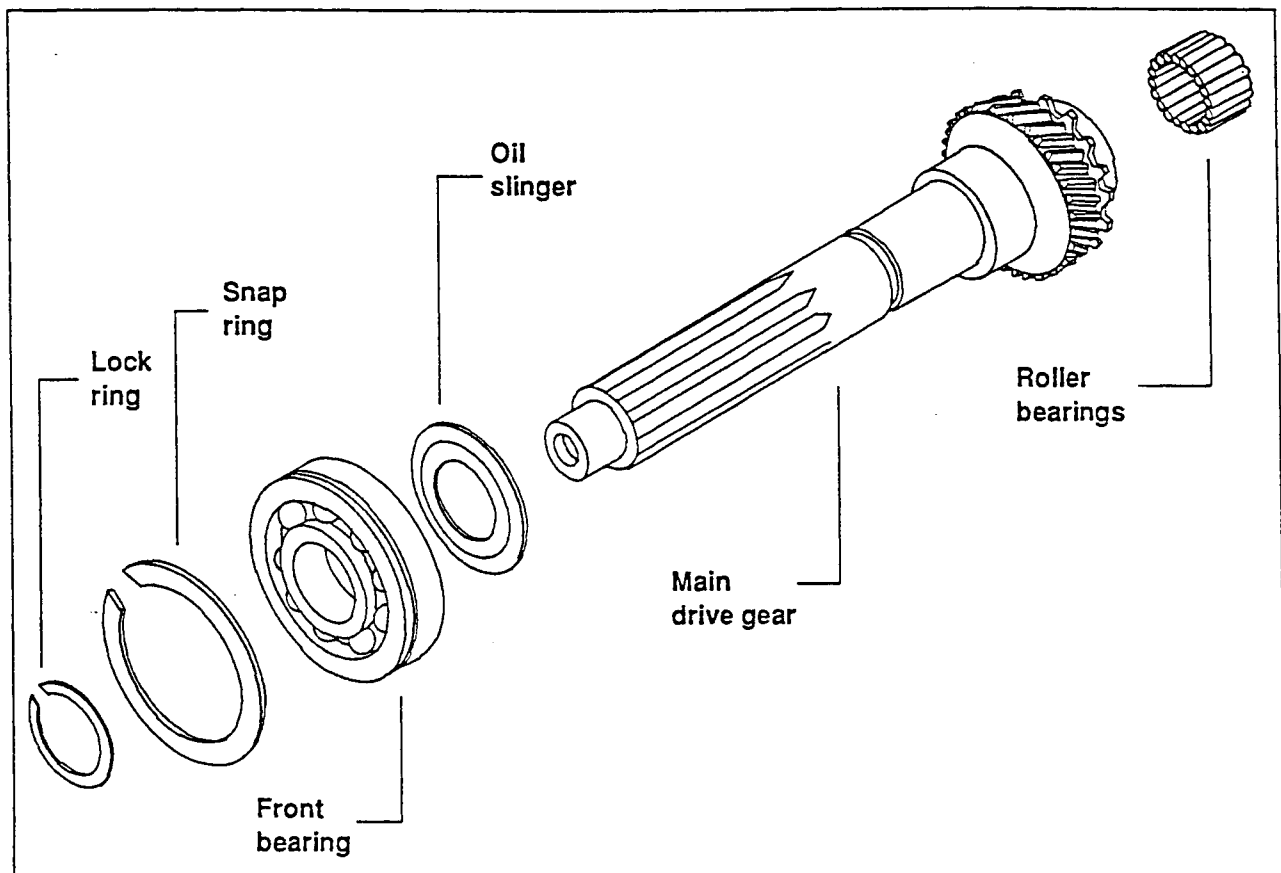

Figure 38 Main drive assembly
- 5** Remove main drive gear snap ring and lock ring (Figure 38).
- 6** Remove front bearing from main drive gear using a bearing puller (Figure 38).
- 7** Remove oil slinger (Figure 38).
- 10** Remove main drive gear (Figure 38).
**12** Insert the 21 roller bearings into the main drive gear (Figure 38).
- 13** Install the main drive gear onto the mainshaft (Figure 38).
- 15** Place the oil slinger onto the main drive gear, with the concave side toward the rear (Figure 38).
- 16** Install front bearing onto the main drive gear (Figure 38).
- 17** Install snap ring and lock ring (Figure 38).
- 19** Measure the clearance of the lock and snap rings using a feeler gauge. The clearance should be between 0.036" to 0.100" at either ring (Figure 38).